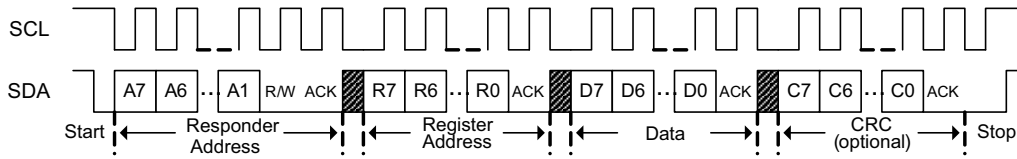

图 14-1. I2C Write
**Figure 14-1** shows an I2C write transaction. Block writes are allowed by sending additional data bytes before the Stop. The I2C logic will auto-increment the register address after each data byte.